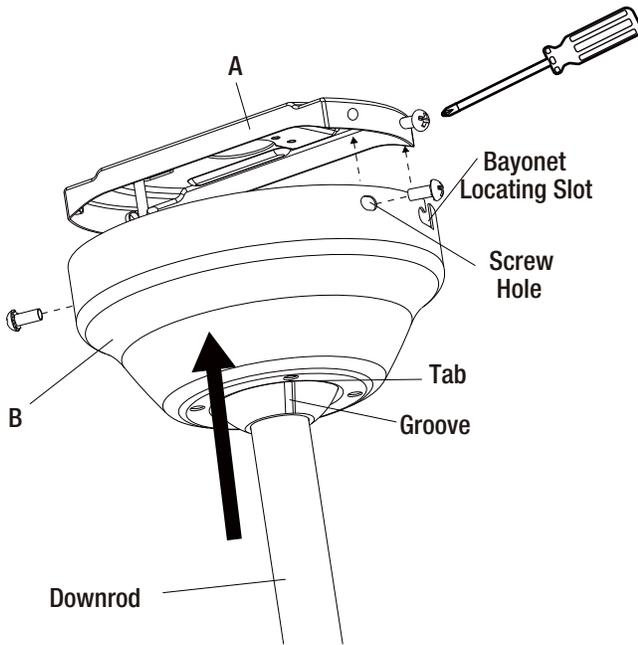

Figure 11
- When the electrical connections have been made, take the fan off the hook. Slide the ceiling canopy (B) up the downrod, making sure that the ball joint groove engages with the ceiling canopy entry hole tab. Slide the bayonet slots on the ceiling canopy onto the screws at either end of the mounting plate (A) and secure with the four screws provided (Figure 11).